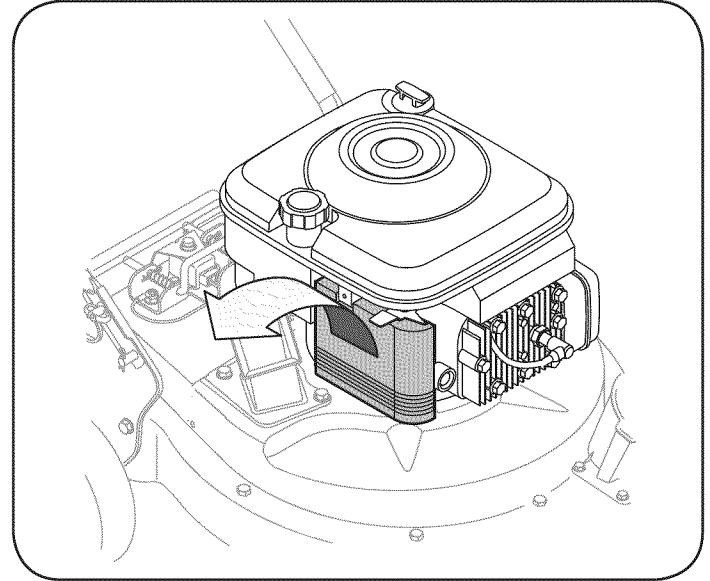

Figure 21
1. Loosen the fastener that holds the cover and tilt plastic housing cover on side of engine down. See Figure 21.